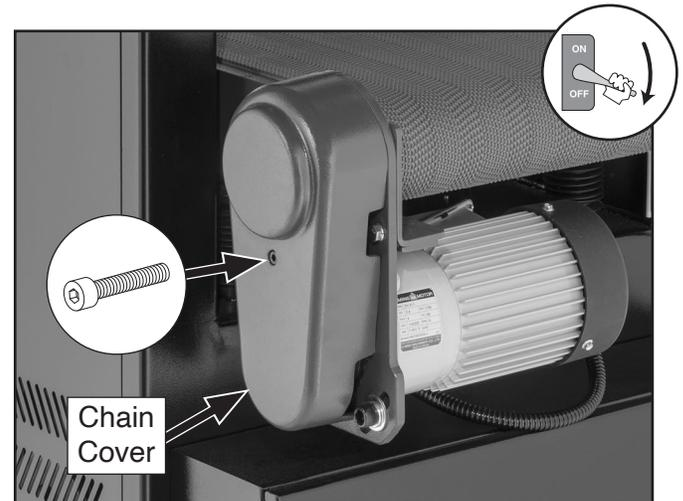

Figure 45. Location of chain cover and securing screw.
2. Remove cap screw shown in **Figure 45** to remove chain cover.